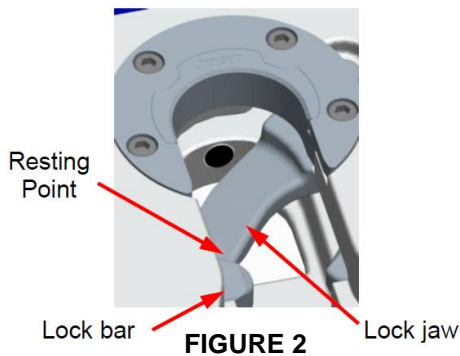

FIGURE 2
- B. The lock jaw is rotated with the opening facing the throat in the ready to couple position (see figure 2)